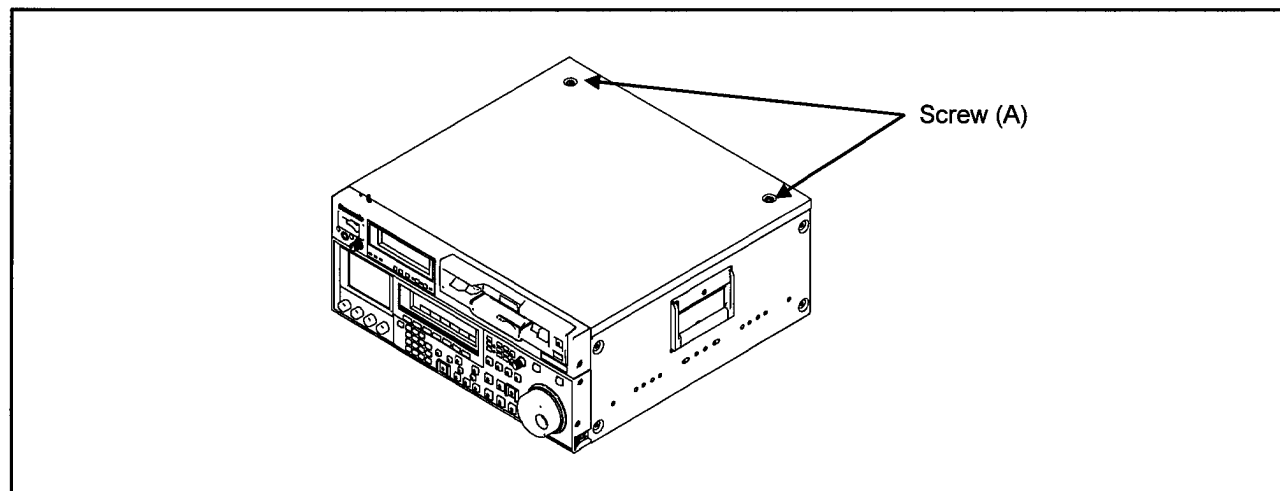

Figure 2-1
1. Loosen the 2 screws (A) as shown in figure 2-1, and remove the Top Panel.